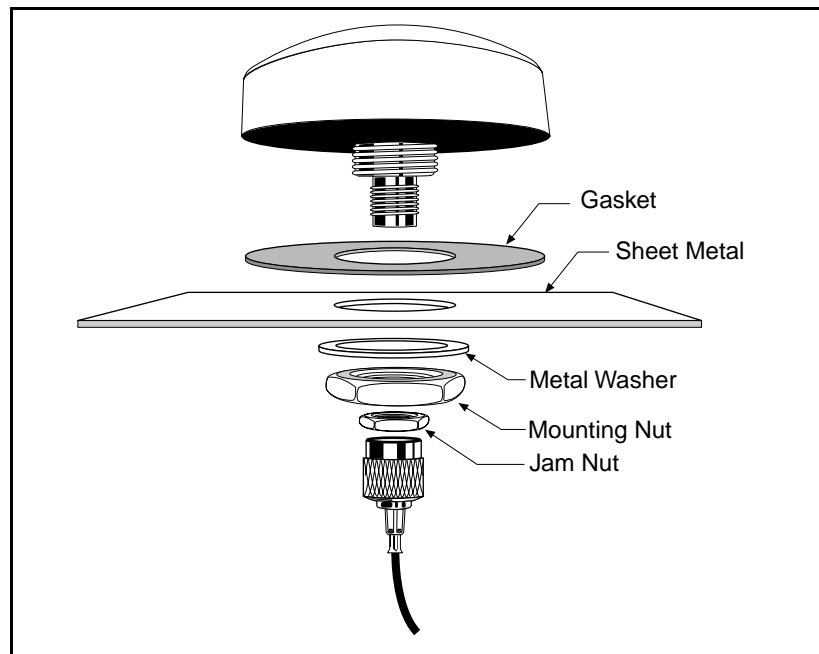

Figure 2.10 Miniature Bulkhead GPS Antenna without Flange (P/N 32434)
Figure 2.10 illustrates the antenna without the flange. For more information, see Appendix A.
4. Mount the gasket as shown in Figure 2.10.
6. Connect the antenna cable as shown in Figure 2.10.